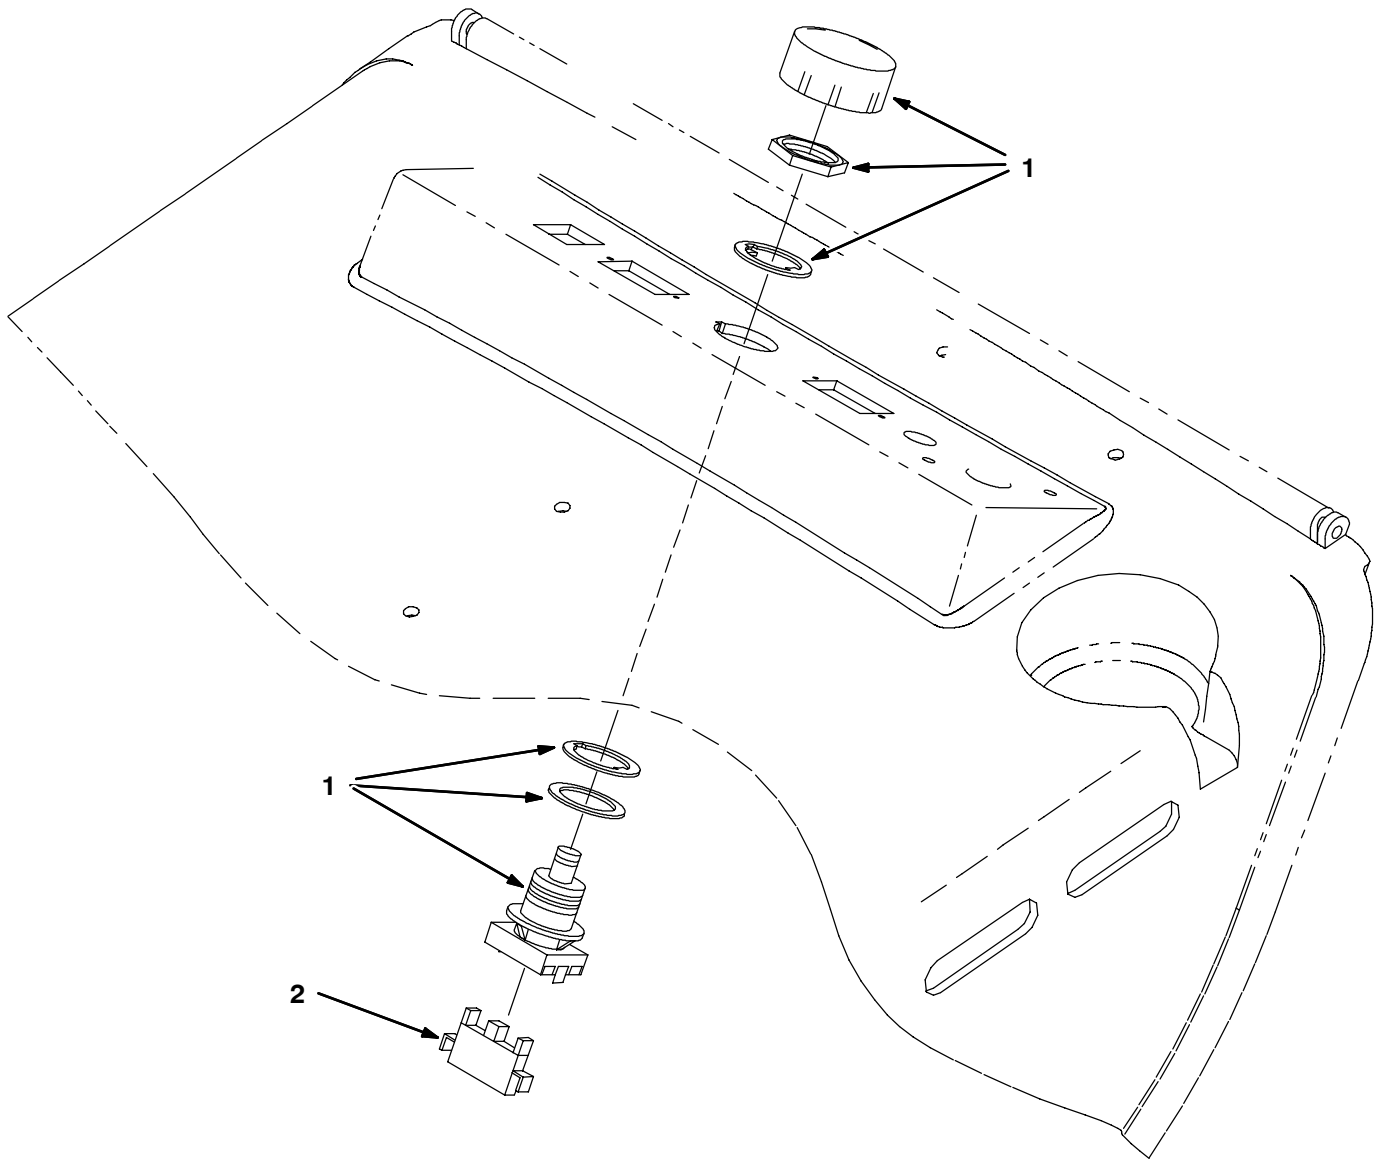

FIG. 2 - Battery Cut Out Button Installation
2. Disconnect, remove and discard the plug button from the machine. (Refer to FIG. 2)
3. Install the new switch and plug button in the machine. (Refer to FIG. 2)